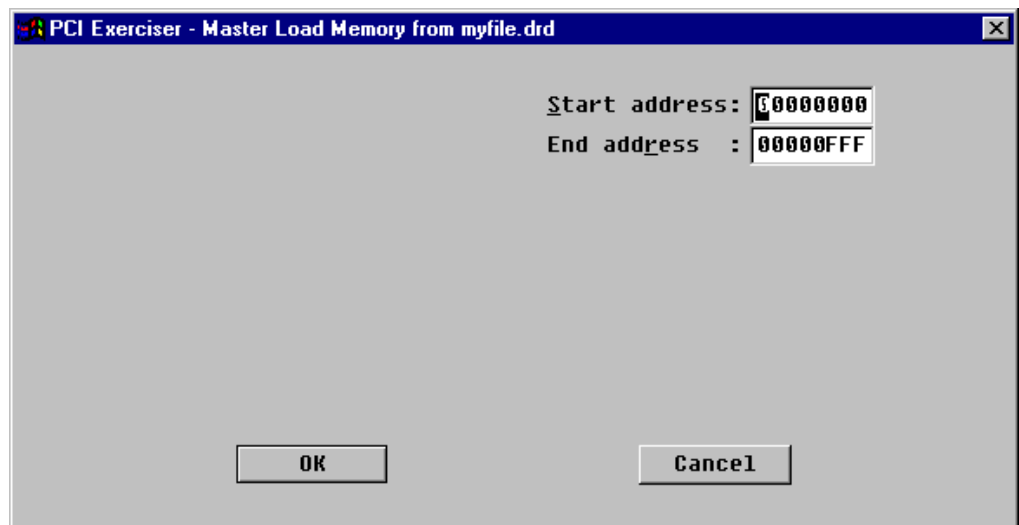

Figure 6.46 Master Load command
**Master menu:** Select Save Memory to File from the Master menu, and a dialog box asking for a file name appears. Select a file, and press the OK button. The dialog box in Figure 6.46 appears.
Select Load Memory from File from the Master menu, and a dialog box requesting a file name appears. Select the file to load, and press the OK button. The dialog box in Figure 6.46 appears.
- In the above example (see Figure 6.46), 0x1000 bytes of data will be loaded from the file "myfile.drd" to PCI memory, starting from PCI address 0x0.